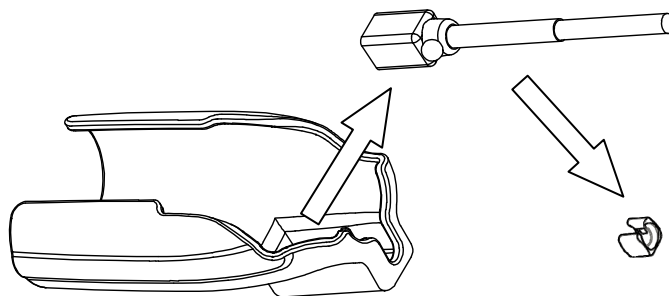

Fig. 7 How to release the Magnetic sensor from the Magnetic sensor attachment
- 2) Release the magnetic sensor from the magnetic sensor attachment as shown in Fig. 7 and release the spacer from the magnetic sensor.